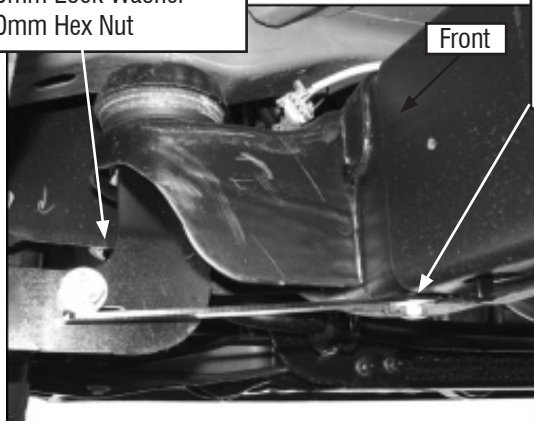
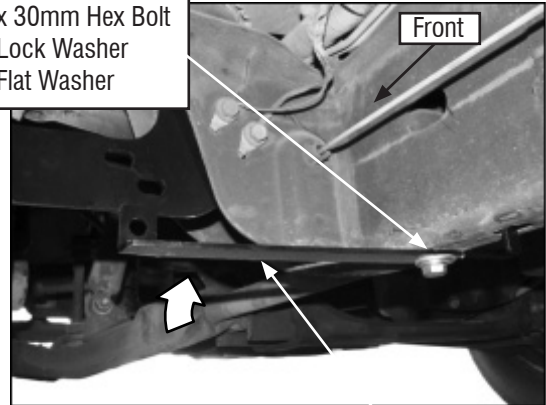

Figure 3
Figure 4
Attach the driver side front Support Bracket to the Nut Plate with (1) 10mm x 30mm Hex Bolt, (1) 10mm Lock Washer and (1) 10mm Flat Washer, (Figures 3 & 4). Do not tighten hardware at this time.
Attach the bent end of the Front Support Bracket to the outside hole in the Front Mounting Bracket with (1) 10mm x 30mm Hex Bolt, (2) 10mm Flat Washers, (1) 10mm Lock Washer and (1) 10mm Hex Nut, (Figure 3). Do not tighten at this time.
Note that the Front Support Bracket will not reach up to the Mounting Bracket, (Figures 3 & 4). Tighten the Support Bracket to the Nut Plate in the frame. Carefully push up on the Support Bracket until it reaches the inside hole in the Mounting Bracket, (Figure 4). Bolt the Support Bracket to the hole in the Mounting Bracket with (1) 10mm x 30mm Hex Bolt, (2) 10mm Flat Washers, (1) 10mm Lock Washer and (1) 10mm Hex Nut. Do not tighten at this time.